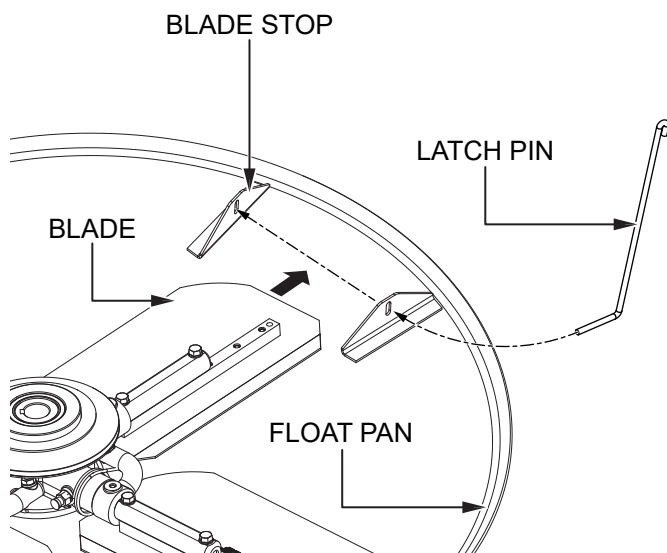

Figure 25. Float Disc Installation
1. Lift the trowel just enough to slide the float pan under the blades. Lower the trowel onto the pan with the blades between the blade stops (Figure 25).
3. Route the latch pins through the blade stop holes as shown in Figure 25.